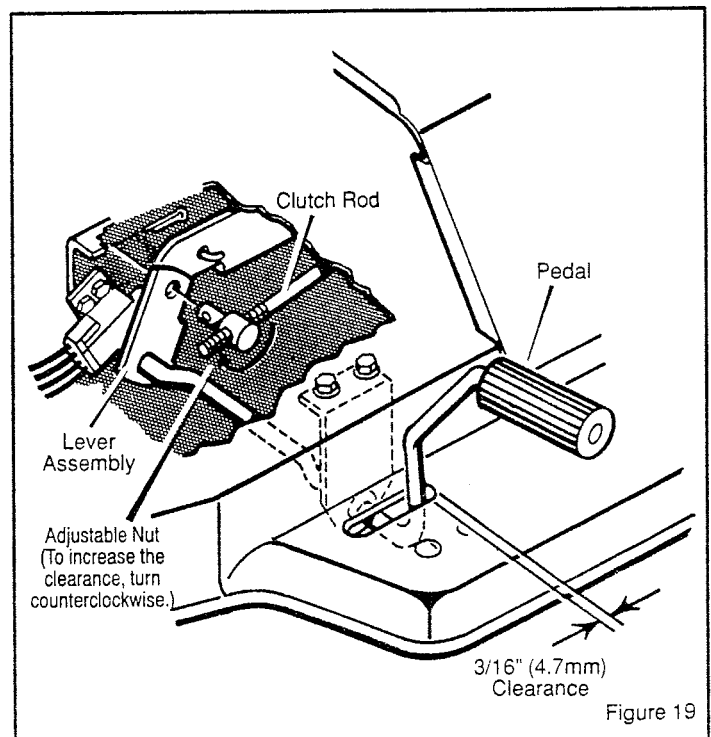

Figure 19
If the motion drive belt is loose, the clutch will slip when: (1) going up a hill, (2) pulling a heavy load, or (3) the unit will not move forward. Check the clearance at the rear of the **pedal** (Figure 19). If the motion drive belt is loose, the clearance will be less than $\frac{3}{16}$ inch and the clutch will slip. Adjust the clutch as follows.
Disconnect the **adjustable nut** from the **lever assembly** (Figure 19).